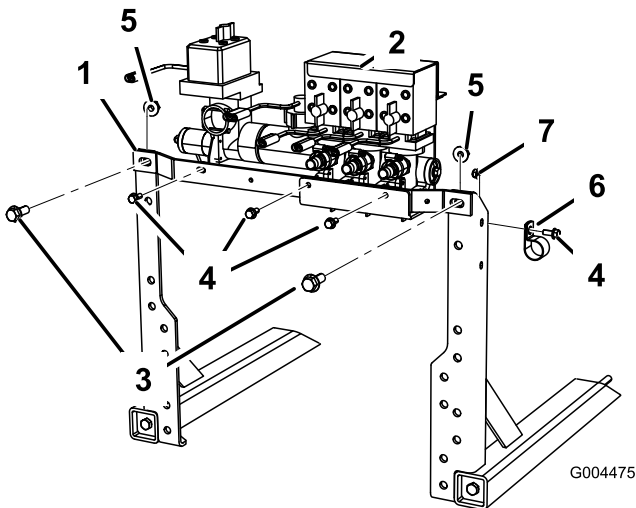

Figure 9
1. Install the new cross bar to the valve uprights by using the fasteners that you previously removed (Figure 9).
2. Secure the valve assembly to the bar using 3 bolts (5/16 x 3/4 inch); refer to Figure 9.
3. Install the hose clamp to the right boom upright (Figure 9).
1. Locate the center boom supply hose coming from the front of the machine, and route the hose through the hose R-clamp installed on the right boom upright (Figure 9) and down into the hole with the grommet in the center boom assembly frame.